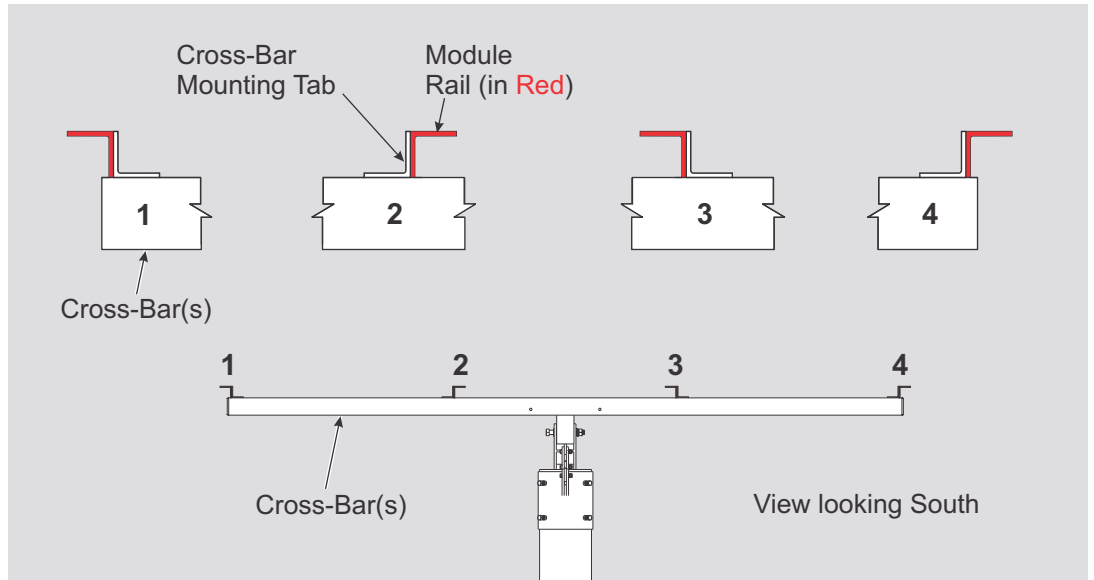
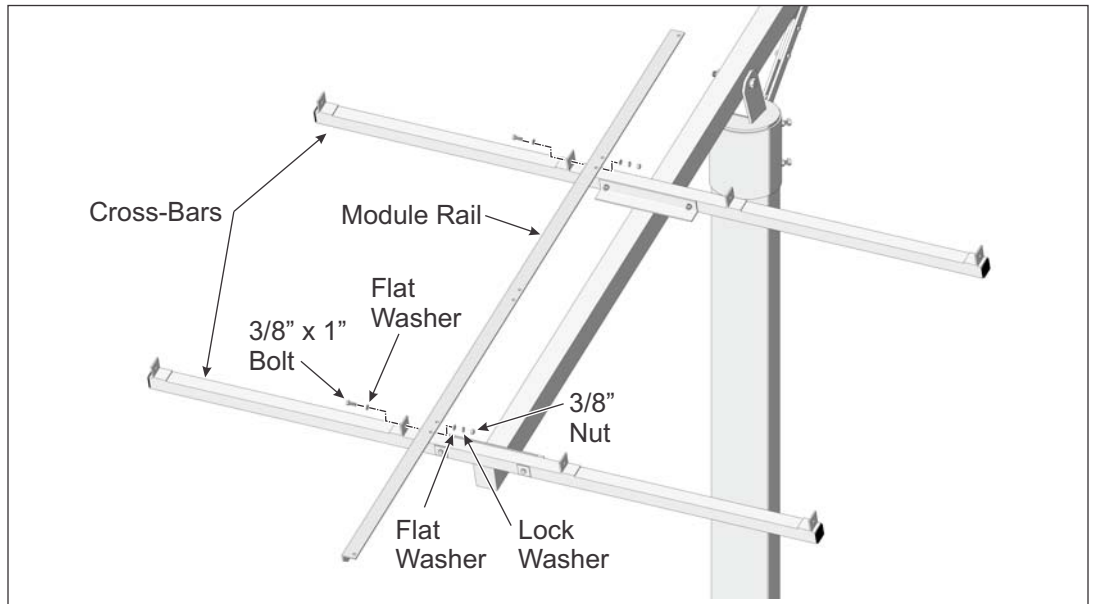

Figure 4-1: Orientation of Module Rails to Cross-Bars
Figure 4-2: Installing southern inboard Module Rail to Cross-Bars
Additionally, Module Rails are installed differently depending on where they are located on the Cross-Bars and the orientation of the mounting tabs of the Cross-Bars. Follow these instructions carefully for the correct orientation. (See Figure 4-1)
- A. Referring to Figure 4-1 for orientation of the Module Rails, position the first section of inboard Module Rail in the southern position on the Cross-Bars. Align the Module Rail mounting holes with the holes of the Cross-Bar mounting tabs and secure with 3/8" x 1" bolts and hardware. Finger-tighten for now. (See Figure 4-2)
- C. Continue in this manner and install all remaining Module Rails (six more) while being mindful and following Figure 4-1 for proper orientation of the Rails to the Cross-Bar mounting tabs.